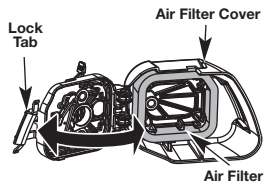

Fig. 23
1. Open the air filter cover by pressing the lock tab in and pulling out on the air filter cover (Fig. 23).
2. Remove the air filter (Fig. 23).
6. Replace the air filter into the air filter cover (Fig. 23).
7. Close the air filter cover by swinging it to the left and then pressing it down until the lock tab snaps into place (Fig. 23).